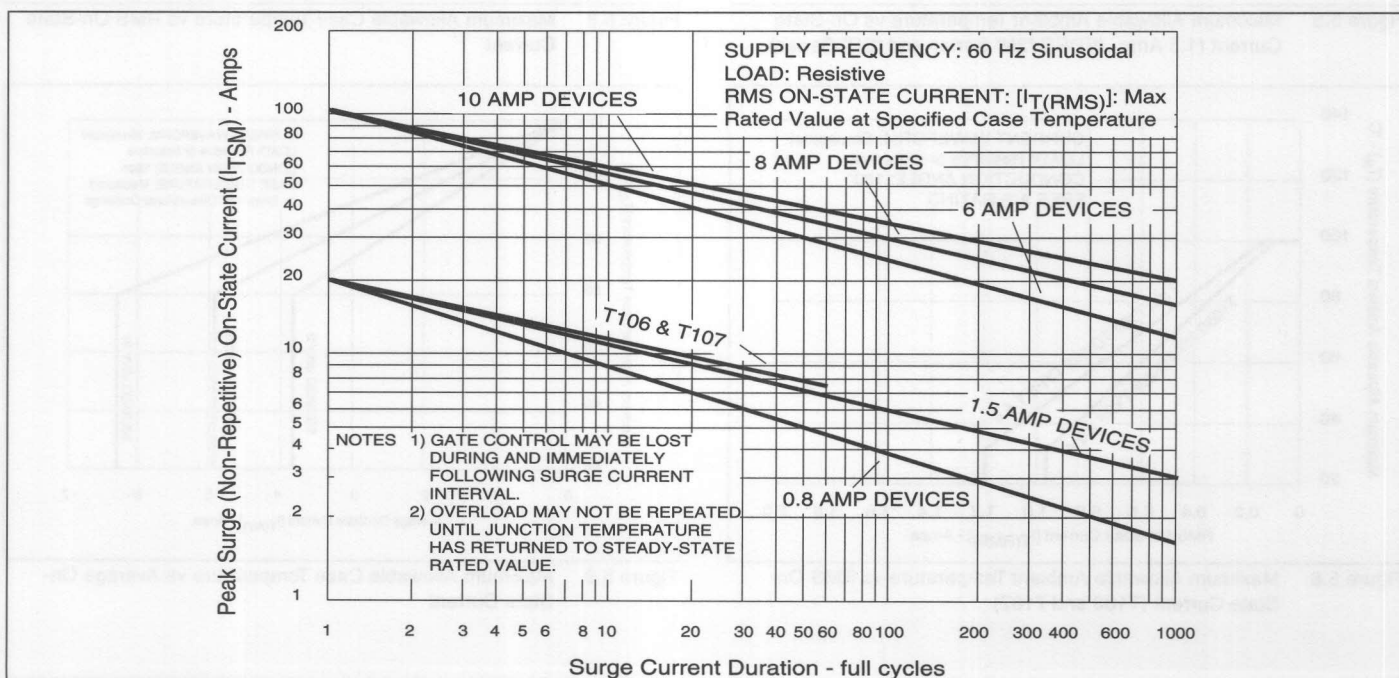

Figure 5.14 Peak Surge On-State Current vs Surge Current Duration
- For more than one full cycle, see Figure 5.14.